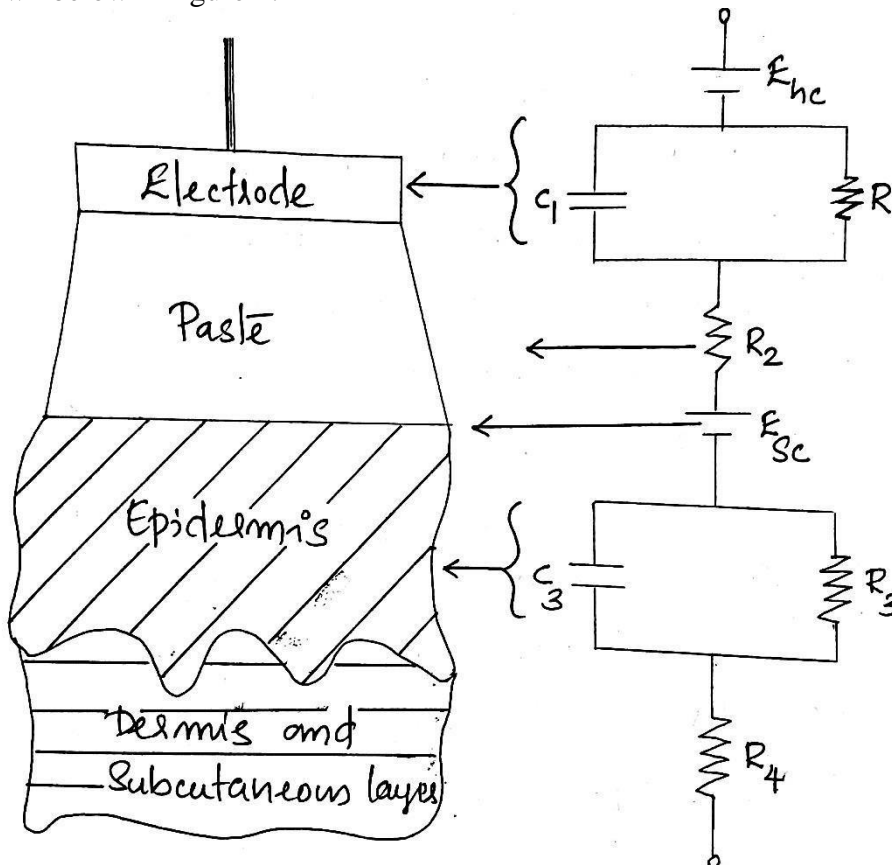

Figure 1: Total electrical equivalent circuit between the electrode and the skin
- When an electrode makes contact with the skin via an electrolyte paste, the equivalent circuit is shown below in figure 1.